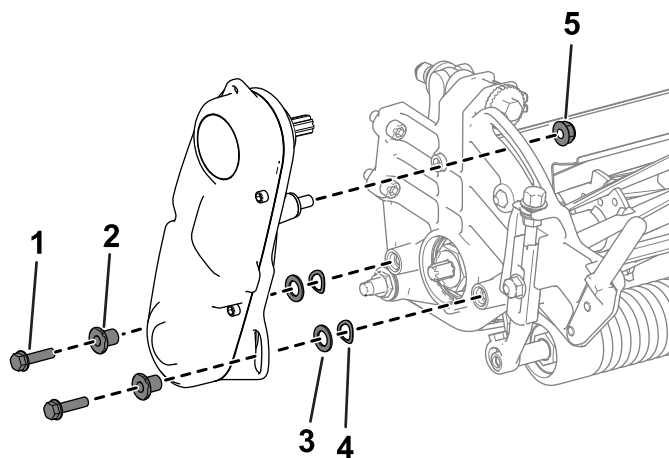

Figure 31
2. Remove the hardware that secures the reel-drive assembly to the side plate (Figure 31).
3. Remove the reel-drive assembly, flat washers, spring washers, and spacers from the side plate (Figure 31).